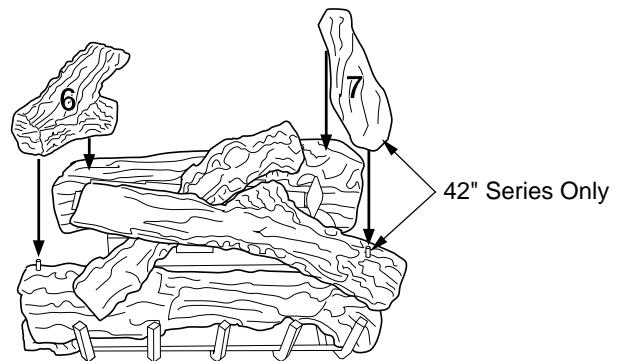

Figure 45 - Installing Log No. 6 (36" and 42" Series) and Log No. 7 (42" Series Only)
6. Place log #6 (left log) onto left pin of front log (#2) and the smooth surface of rear log (#3) as shown in Figure 45. Make sure it is seated properly.
7. For (V)V42 series only, place log #7 onto right pin of top log (#5) as shown in Figure 45. Make sure it is seated properly